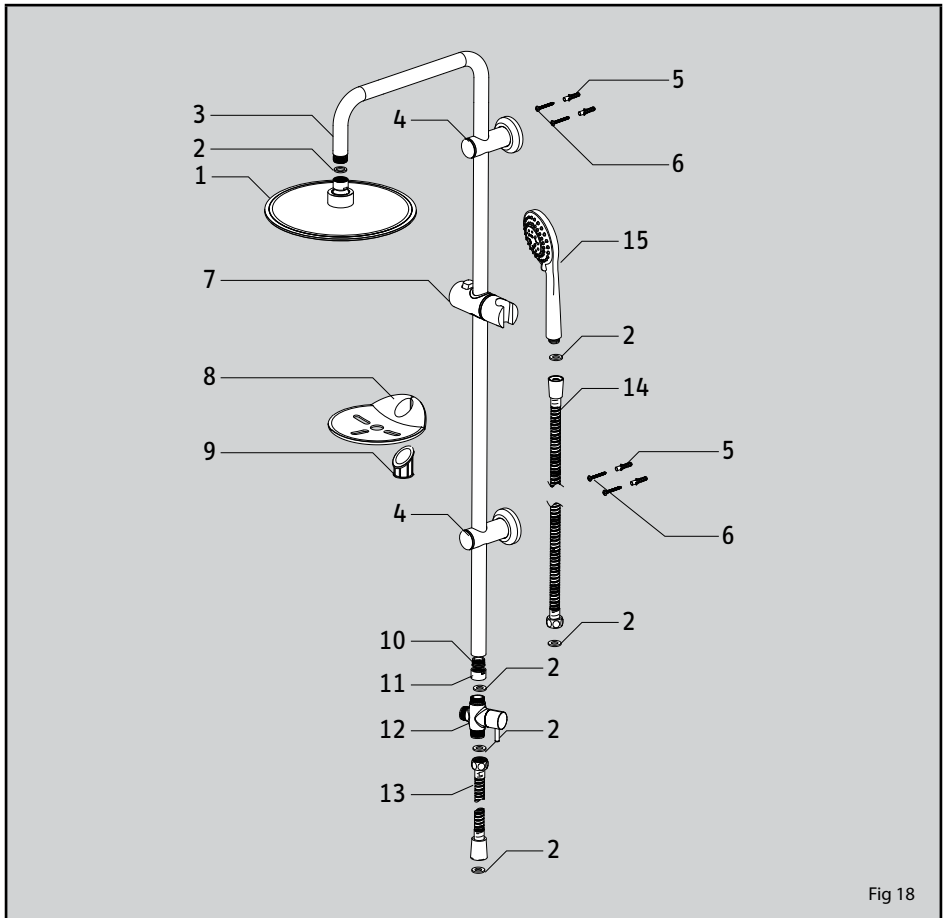

Fig 18
- Install the mounting terminal Fig 18 no. 4 (screw and wall plug Fig 18 no. 5, 6).
- Put the rain shower set (mounting terminals no. 4, hand shower holder no. 7, soap tray no. 8 and soap tray jacket no. 9) on the stainless steel tube (Fig 18).
- Install valve connector and nut (10 + 11, Fig. 18) to stainless steel tube with a hex wrench. Assemble the diverter valve to the connector with a gasket in between. Carefully tighten the connector to the diverter valve with a wrench.